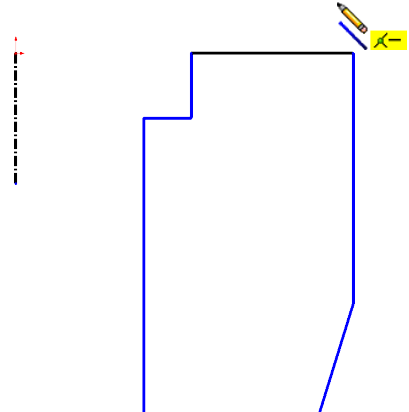

Fig. 3
Step 5. Click **Line**  (L) on the Sketch toolbar.
Step 6. Draw **lines**, **Fig. 3**. Start directly to left of Origin and use the automatic **coincident horizontal relation**, cursor will change to yellow coincident-horizontal icon  as you sketch horizontal line across.